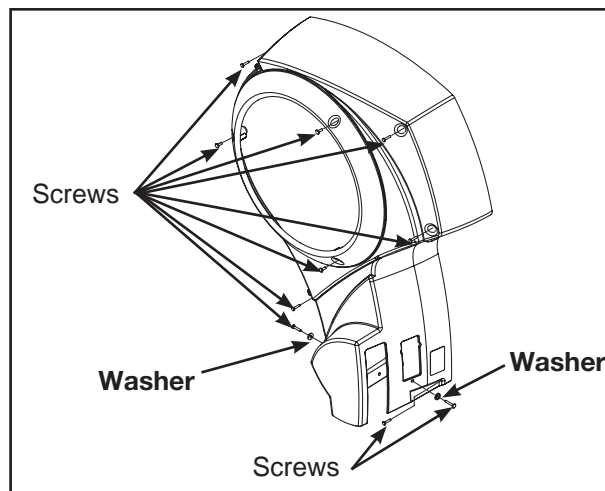

Figure 8
A. Using a long phillips head screwdriver remove the ten screws and two washers securing left shroud cover in place. See Figure 8.
- A. Using a long Phillips head screwdriver install the ten screws and two washers (removed in step 16A) securing left shroud cover in place. See Figure 8.